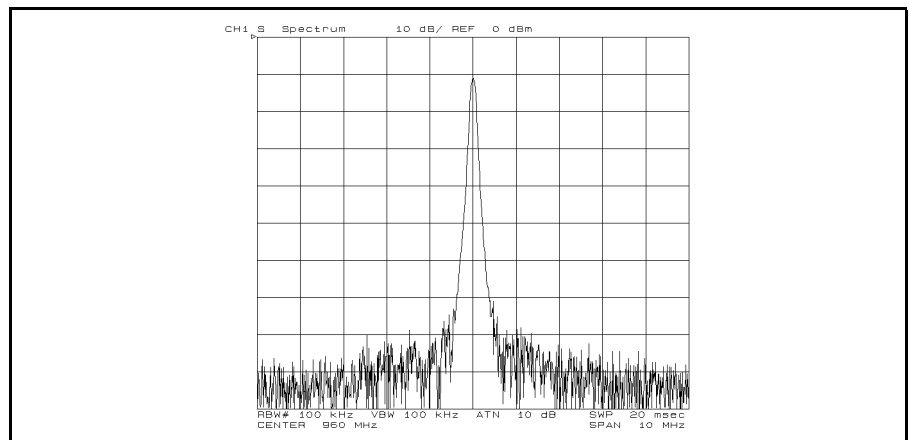

Figure 4-21. Burst Signal Measurement Using Gated Sweep
3. Press **GATE LENGTH 30 (M/μ)**. The analyzer displays only the RF signal spectrum as shown in Figure 4-21.